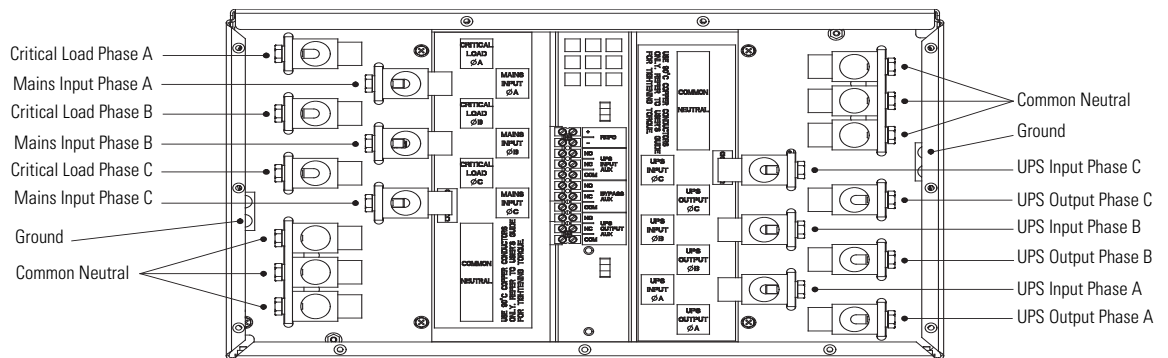

Figure 13. Power Terminal Locations
6. Route the mains input, neutral, and ground wiring from the utility source to the MBM mains input, neutral, and ground terminals. See Figure 13 for terminal locations.
10. Route the UPS input, neutral, and ground wiring from the MBM to the UPS input, neutral, and ground terminals on the BladeUPS Bar terminal block. See Figure 13 for terminal locations.
- Route the UPS output wiring from the MBM to the UPS output terminals on the BladeUPS Bar terminal block. See Figure 13 for terminal locations.
- Route the critical load output, neutral, and ground wiring from the MBM critical load terminals to the critical load. See Figure 13 for terminal locations.